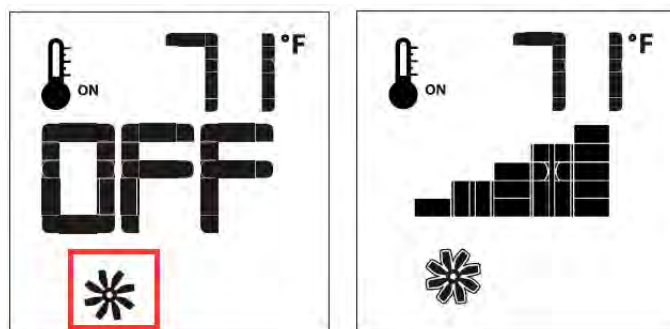

Figure 28l. Fan Speed Control
The fireplace is equipped with optional hot air circulating fans. The speed of the fans can be controlled by the Proflame system. The fan speed can be adjusted through six (6) speeds. To activate this function use the Mode Key, see Figure 28, to index to the fan control icon, see Figure 28l. Use the Up/Down Arrow Keys to turn on, off, or adjust the fan speed. A single "beep" will confirm reception of the command.